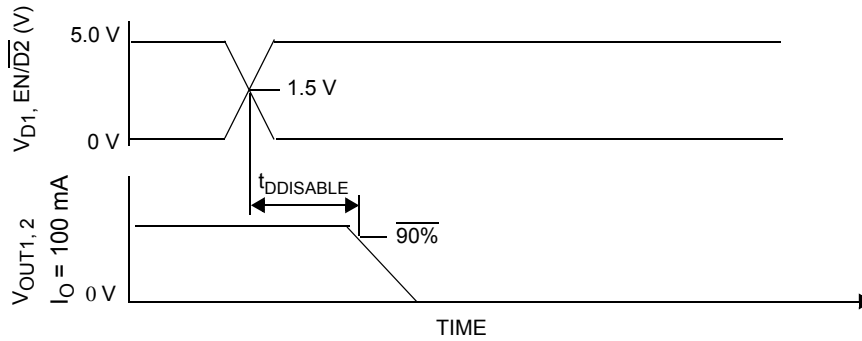

Figure 5. Disable delay time
- \* Disable Delay Time measurement is defined in Figure 5, page 10.